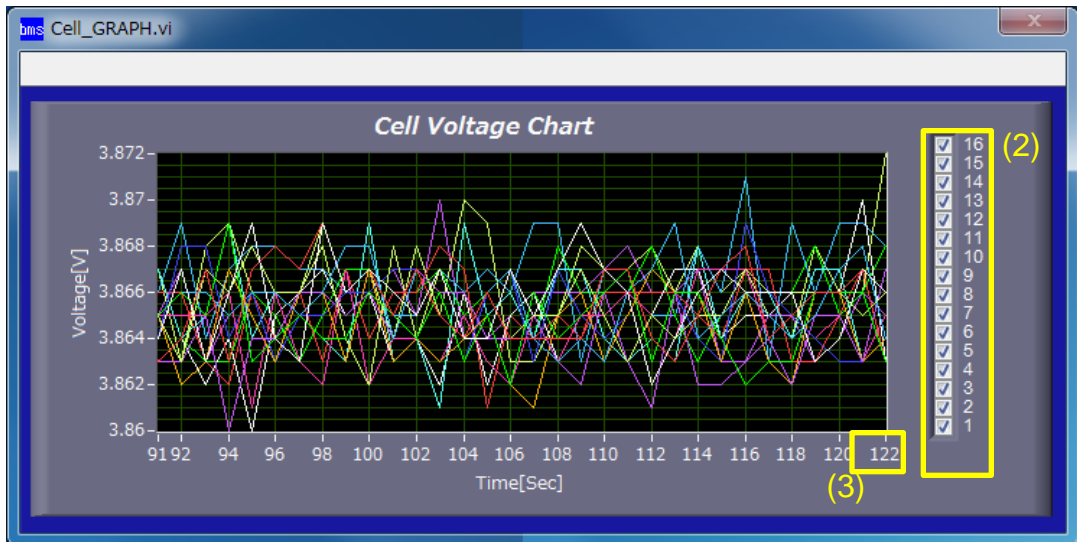

Figure4.7.1 Cell Graph window
Cell Graph window can be opened by pressing the button *Cell Graph* in region (1) (Figure4.7.1). The graph will be plotted if the checkbox for corresponding channel is checked on resign (2). It can be cleared by *chart clearance* on right-click menu. The range of Time[Sec], maximum of which is 1000, can be changed by changing (3).